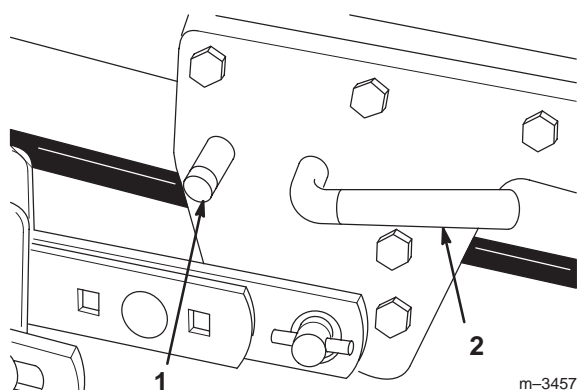

Figure 24
12. Press the button of the mid Attach-A-Matic™ and twist the lever clockwise to release the mower (Fig. 24).